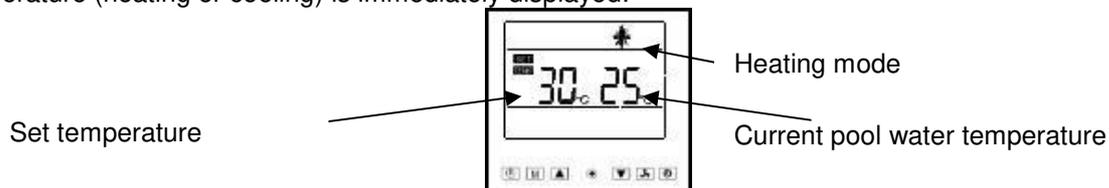
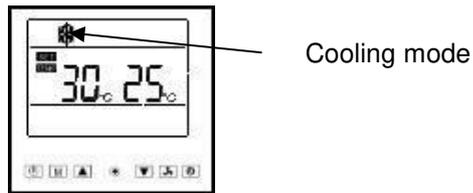

Figure 10: Heat pump display when turned on, heating mode.
Figure 11: Heat pump display when turned on, cooling mode.
To start the heat pump, press . The heat pump starts within 3 minutes. The last selected operating mode (heating or cooling¹⁸), see Figure 10, Figure 11, the last temperature set and the current pool water temperature (heating or cooling) is immediately displayed.
- Heating,  is displayed, see Figure 10.
- Cooling,  is displayed, see Figure 11.
The temperature read by each sensor can be displayed by pressing  (for model BP-xxWS-B (xx=30, 35, 50), press ) and hold down for 3 seconds with the pump is running, see Paragraph 5.2.4. To display temperatures read by the various sensors, press  (for model BP-xxWS-B (xx=30, 35, 50), press ). The temperature read by the sensor is displayed for 10 seconds, if no other key is pressed, or press  to return usual information to the display, see Figure 10 and Figure 11.